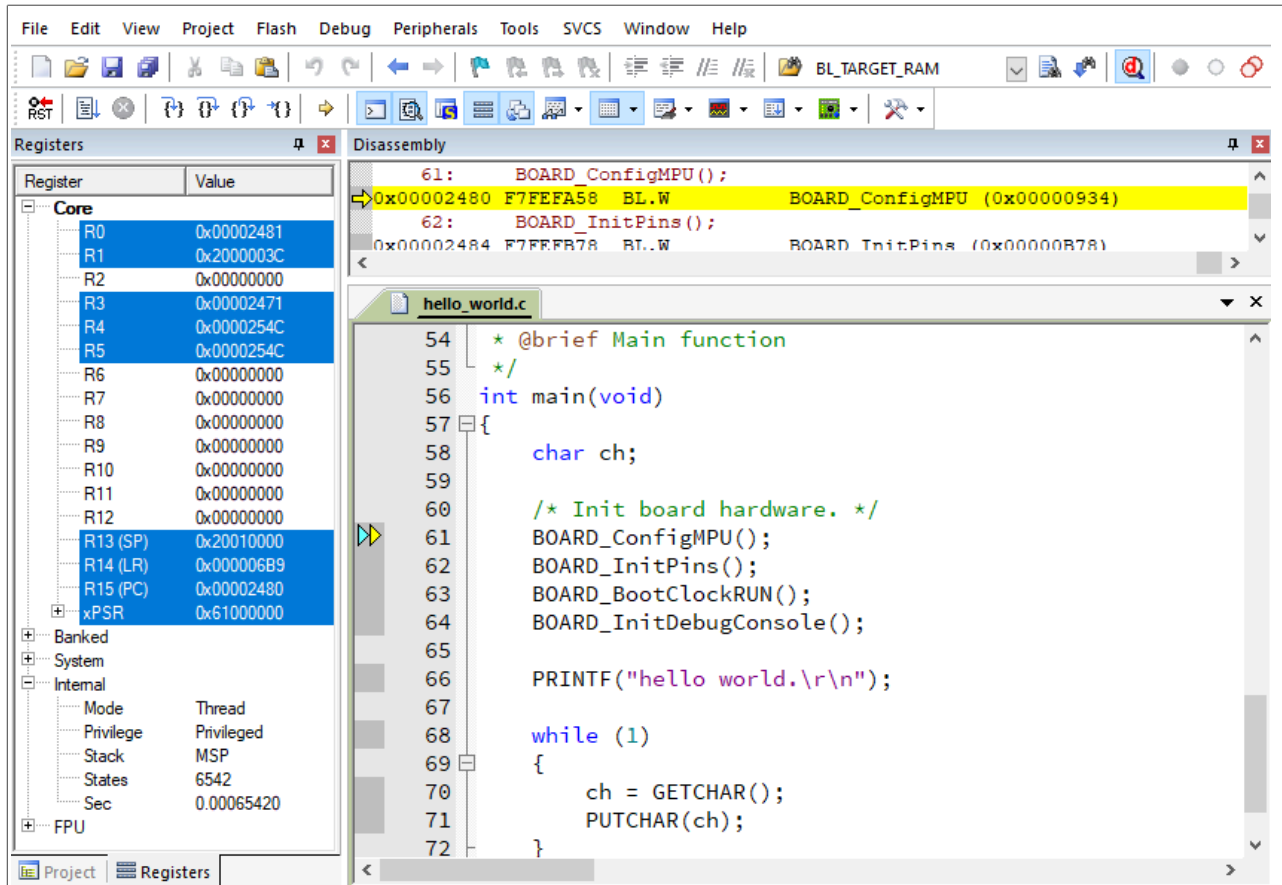

Figure 12. Stop at main() when run debugging
- To debug the application, click **load** (or press the F8 key). Then, click the **Start/Stop Debug Session** button, highlighted in red in Figure 12. If using **J-Link** as the debugger, click **Project option >Debug >Settings >Debug >Port**, and select **SW**.